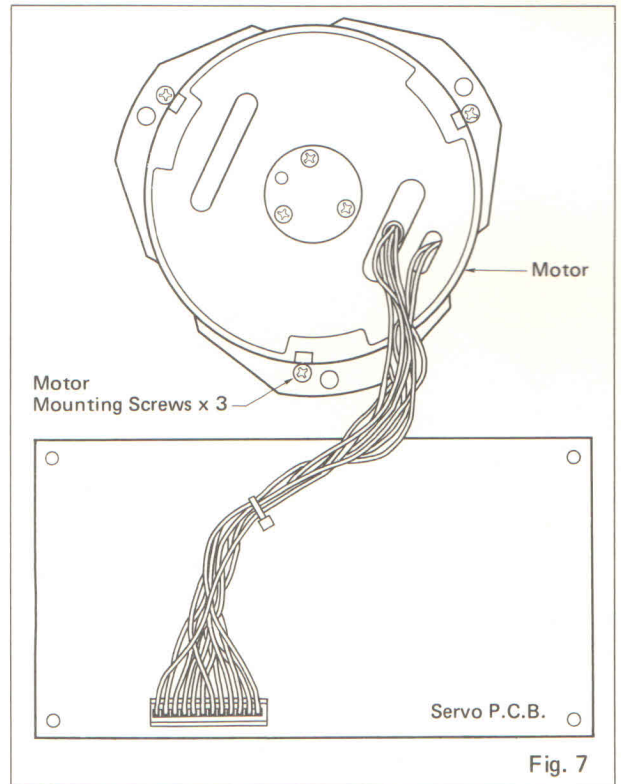
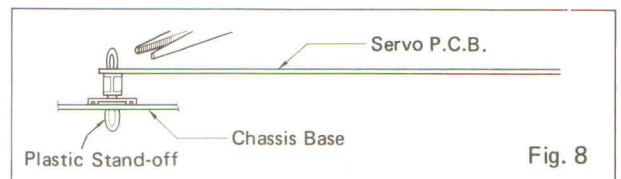

Fig. 7
Fig. 8
- (2) Remove the three motor screws (M3 x 8). (Fig. 7)
- (3) If only the Motor is to be removed, disconnect plug from the Servo Circuit Board.
- (4) To remove the Servo Circuit Board together with the Motor, pinch the end of the plastic standoffs with pliers (Fig. 8) and lift off the Servo Circuit Board.